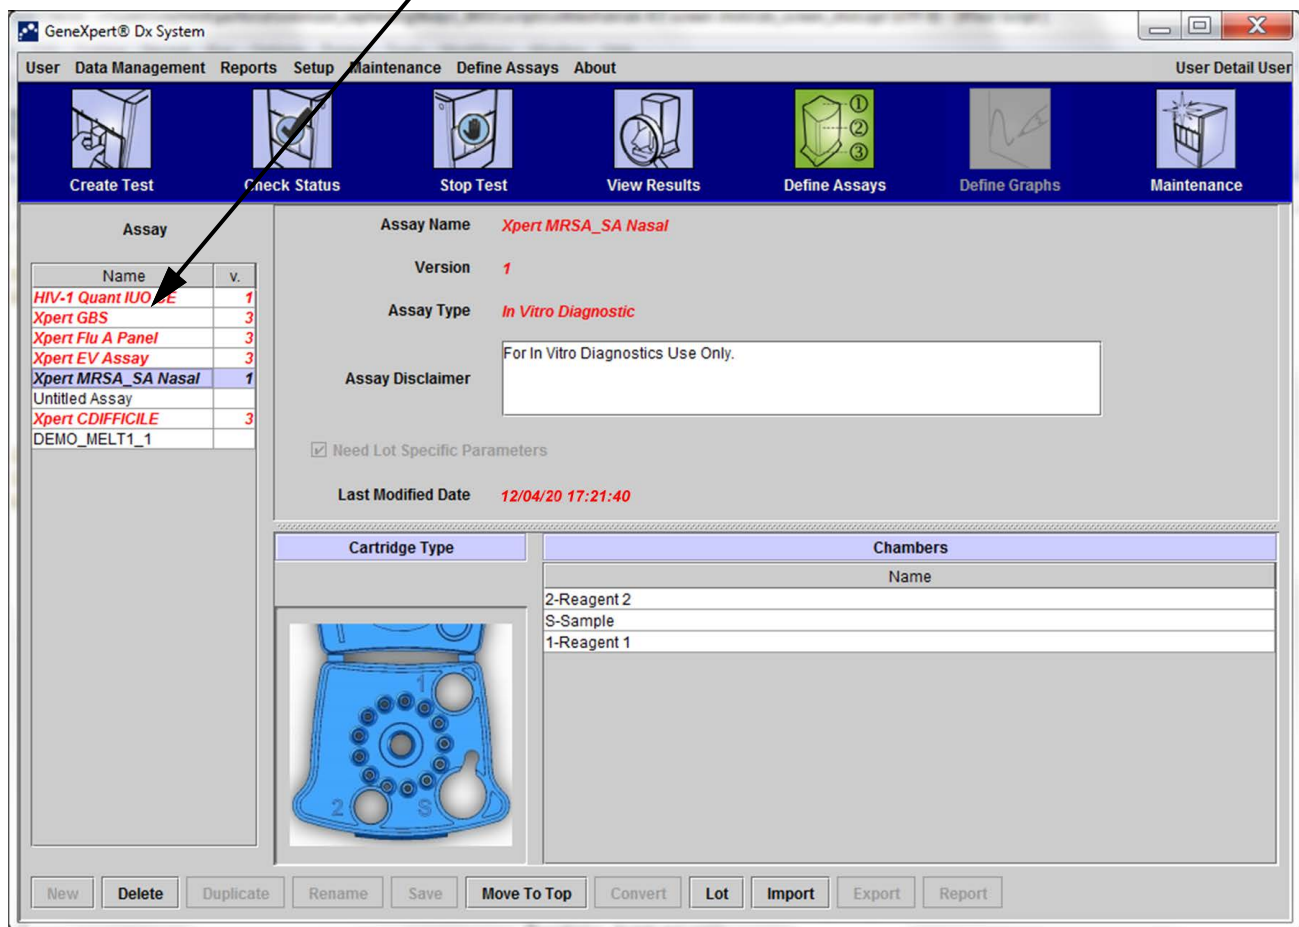

Figure 5-15. GeneXpert Dx System—Define Assays Window
1. In the GeneXpert Dx System window, click **Define Assays**. The Define Assays window appears (see Figure 5-15).